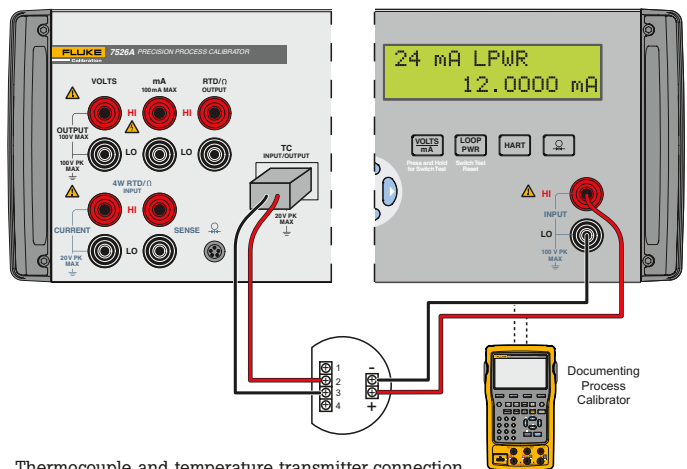

Figure 2. Thermocouple and temperature transmitter connection.
3. Connect a Type J mini connector into the TC input/output jack as shown in Figure 2. Make sure to use a Type J thermocouple (typically black).
4. Connect the bare ends of the thermocouple wire to terminals 2 (+) and 3 (–) of the transmitter and run power as shown in Figure 2, ensuring that the polarity of the circuit is connected correctly.